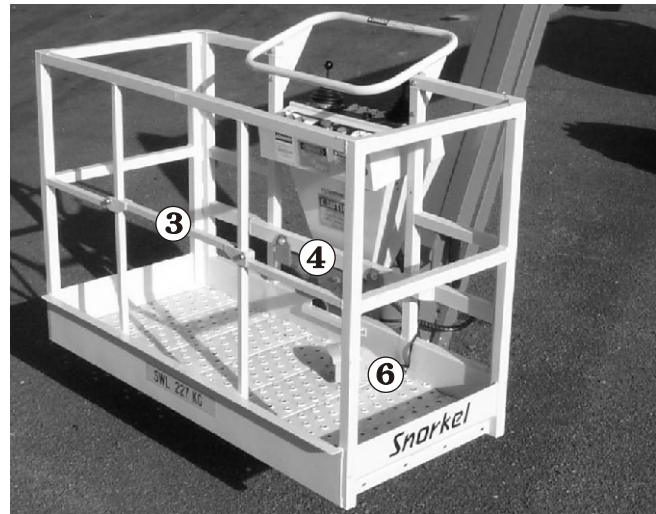

Figure 7.2—Platform
3. Enter the platform and securely close the gate^③ (refer to Figure 7.2).
4. Attach the fall restraint harness to one of the anchor points^④ (refer to Figure 7.2).
7. Step down on the platform foot switch^⑥ (refer to Figure 7.2 and & 7.5).